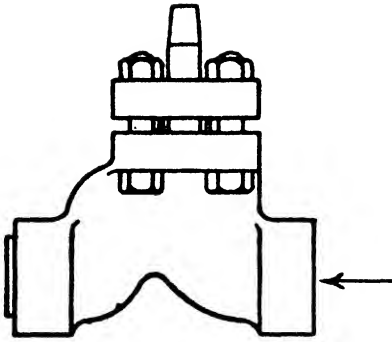

FIG. 118.
**The Needle Valve.**—In the float chambers of many carburettors there is a needle valve operated by the float. The valve consists of a male and female cone. This idea is common to many hydraulic valves, the spindle of the needle having a thread which screws into a glanded nut. As the pointed end is screwed into the female portion it revolves and so seats itself perfectly. A standard type of hydraulic valve is outlined in Fig. 118.